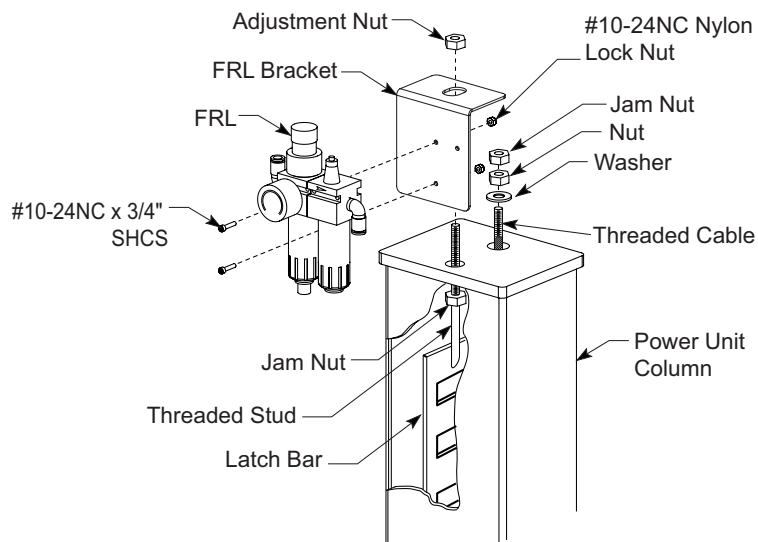
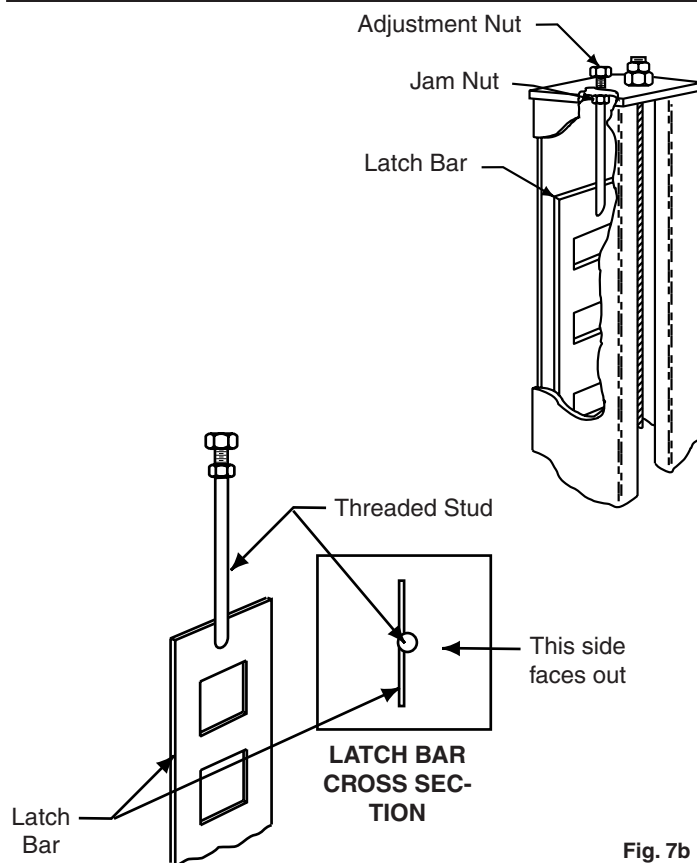

Fig. 7a
Fig. 7b
- B. Thread the jam nut down the threaded stud of the latch bar as far as possible. Attach rubber bumper to latch bar, see Fig. 8. Place the latch bar into the back of the column. The latch bar is offset from the center line of the threaded stud. The latch bar should be oriented toward the back of the column from center line of the threaded stud, Fig. 7b. Thread the adjustment nut down the threaded stud until the nut and top plate are flush, Fig. 7a. Repeat for other columns.
- C. Place FRL Bracket on top of power unit column. Guide the threaded stud through the hole in the column top plate and bracket, Fig. 7a.